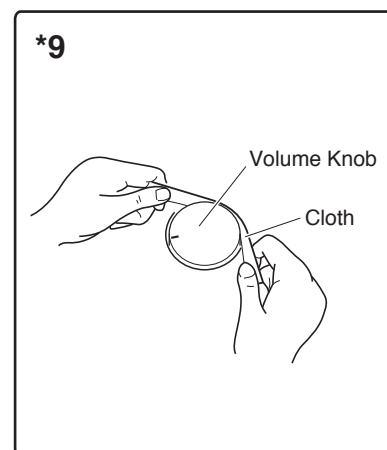

Fig.2-4
- *9 Volume Knob (See Fig.2-4.)